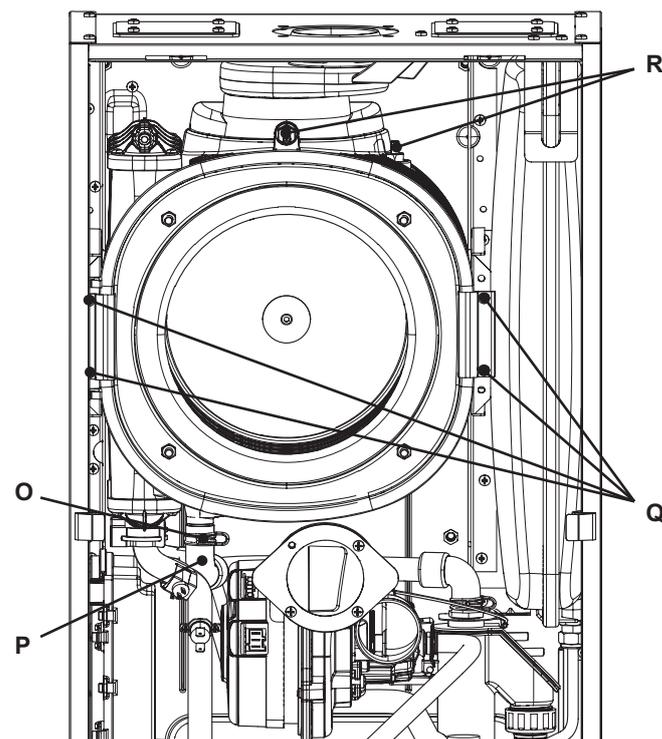

Figure 5.3
- disconnect the rubber pipe P (Figure 5.3).
- 12 Unscrew the screws Q and remove the clamps (Figure 5.3).
- 13 Disconnect the two connectors R by pressing the plastic hook placed on the side of the connector (Figure 5.3).